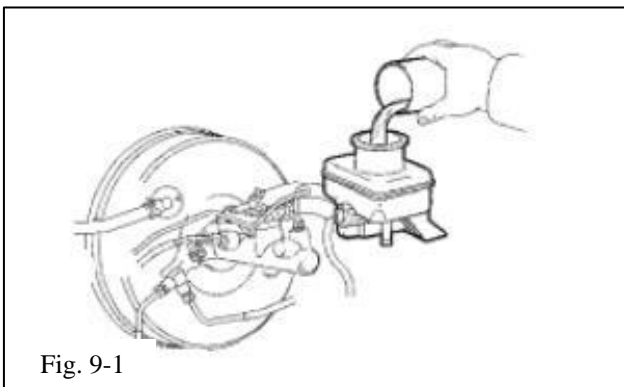

Fig. 9-1
- (b) Fill the reservoir with brake fluid. Fluid: SAE J1703 or FMVSS No. 116 **DOT3** (Fig. 9-1). Do not overfill.